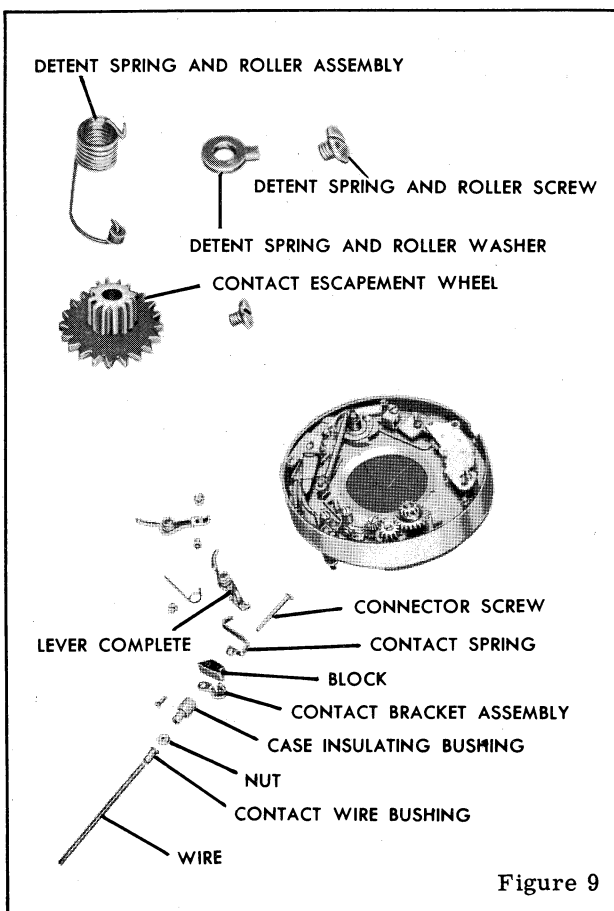

Figure 9
1. **CONTACT WIRE BUSHING**, figure 9, the contact **WIRE**, and the connector screw **NUT**.